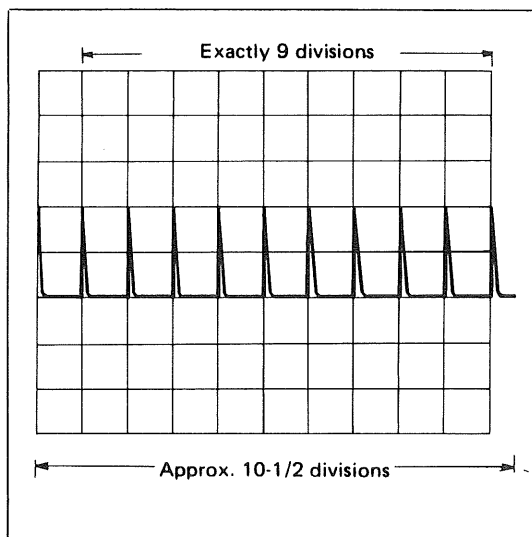

Fig. 4
4. Adjust VR305 so that 11 visible markers occupy exactly 11 divisions of horizontal deflection as shown in Fig. 4.
2. Adjust the following adjuster to duplicate the conditions shown in Fig. 4.